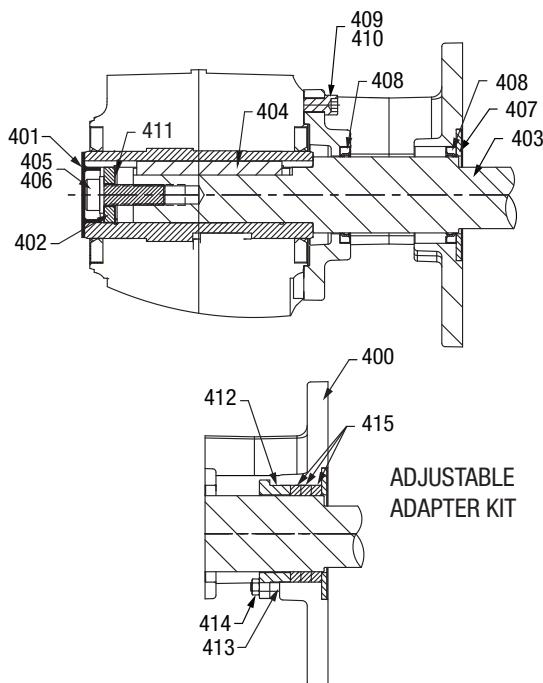

Figure 1 - Screw Conveyor Adapter Assembly
1. Install seals (408) into adapter housing as shown in Figure 1. If the optional packing adapter is to be used, install only one seal in the small end of the adapter. Use extreme care when installing seals to avoid damage to the seals. Press or tap seals into place by applying pressure only on the outer edge of the seal. Make sure seals are installed evenly and are not titled.
2. If using the optional packing adapter, install the two studs (413), retaining ring (412), and two nuts (414). Thread the nuts onto the studs about 4-5 threads. Install the three braided type seals (415) in a circular direction into the adapter cavity. Shoulder the braided seals against the adjustable retaining ring (412). To aid in installation of the driveshaft in step 7, the braided seals can be flattened out slightly with a soft hammer prior to installation. When installing the braided seals offset the joints from one another.
3. Lightly tap the large washer (407) into the counter bore on the large end of the adapter to seal the braided material installed in Step 2 or the seal installed in Step 1.
5. Position screw conveyor adapter (400) on the reducer output hub so that the small end (end with 6 through holes) rest on the reducer.
6. Place six adapter screws (409) and lock washers (410) through the adapter and thread into the reducer. Tighten four cap screws (409) to the torque specified in Table 1.